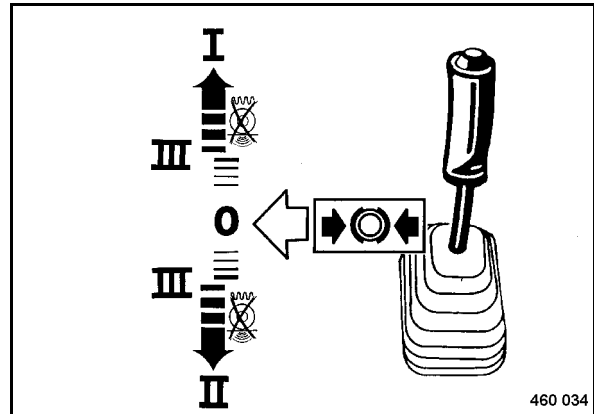

Fig. 51
*Control the travel speed only with the travel lever (Fig. 51).*
- Disengage the travel lever (Fig. 51) to the left out of braking position and move it slowly through "0"-position to the desired travel direction.